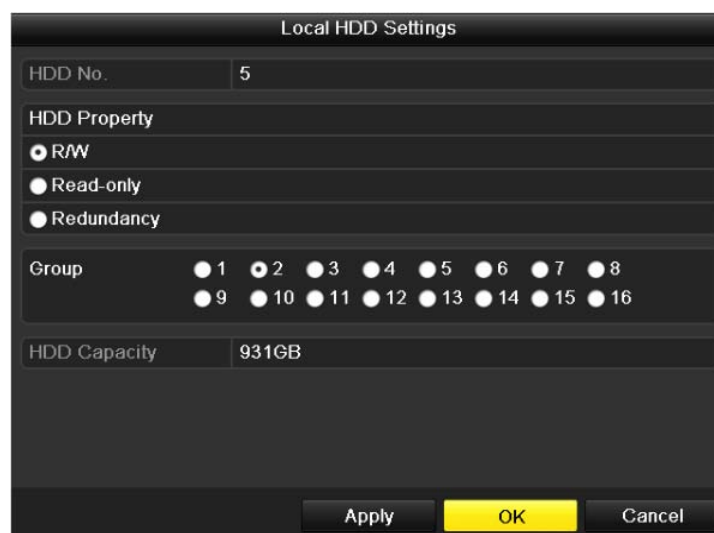

Figure 10.14 Local HDD Settings Interface
6. Select HDD from the list and click the  icon to enter the Local HDD Settings interface, as shown in Figure 10.14.